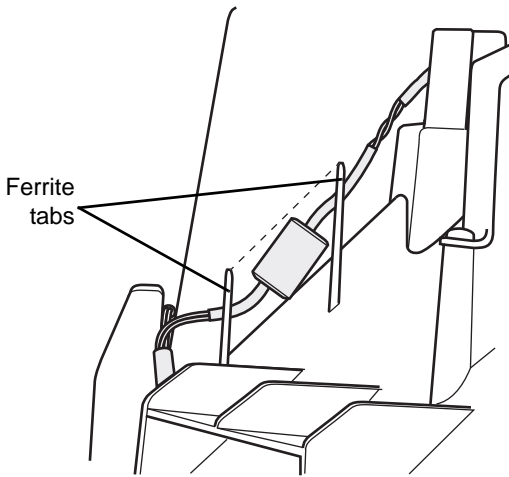

Figure 3-17 Speaker Wire Ferrite Placement
3. After removing the tower cover, ensure the speaker wire ferrite is in the correct position, behind the tabs as shown in Figure 3-17. Failure to properly route the wire may cause the wire to pinch when the tower cover is replaced.